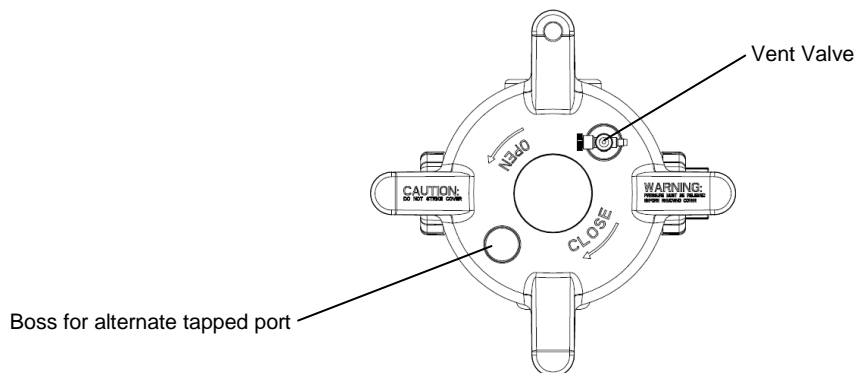

Fig. 3: Vent valve and additional boss on cover (top view)
- 1.5.1.2 Remove threaded pipe plug from vent valve located on top of filter vessel cover. (See fig. 3.)